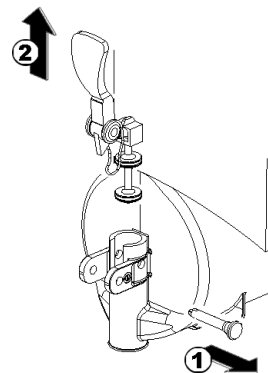

figure 10
5 Dismantle the faucet assembly (see figure 10).
- 3** Assemble the faucet by reversing the disassembly steps (see figure 10)